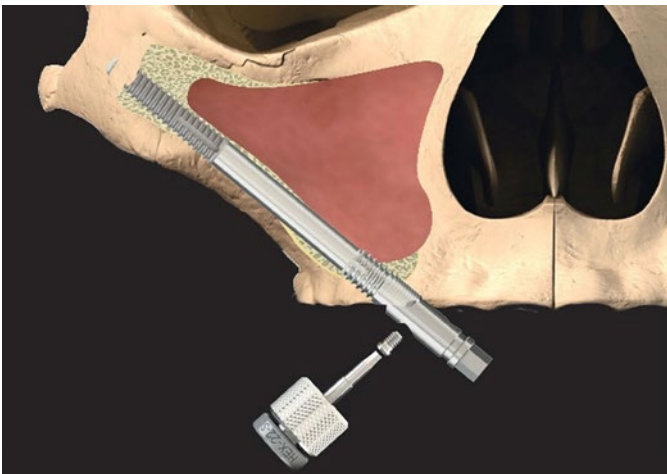

Figure 11
9. The fixture mount screw is then loosened with the dedicated screwdriver and the fixture mount is removed (Figure 11). Should the fixture mount or screw be difficult to loosen, refer to CAT-1217 on the procedure and instruments to use.